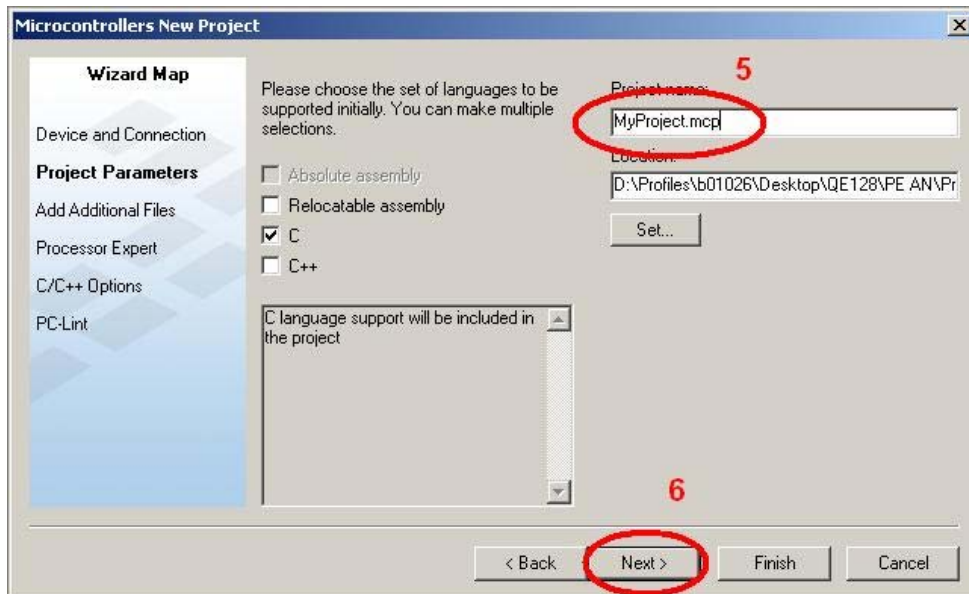

Figure 4. Microcontroller new project dialog
5. In the Project Parameters window type your project name in the corresponding field, this example uses the name MyProject. See step 5 in Figure 4.
6. Click Next. See step 6 in Figure 4.